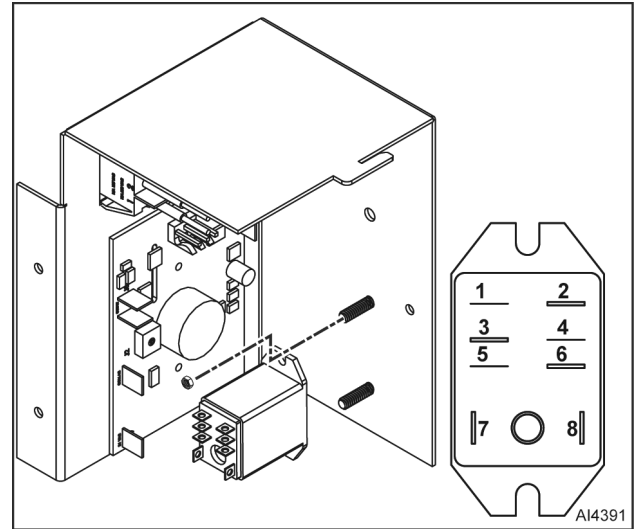

Fig. 11
2. Disconnect wires from relay (Fig. 11).